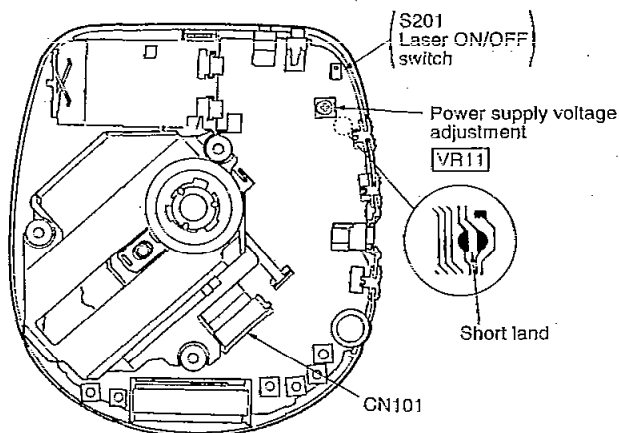

Fig. 1
Short-circuit the lands of the laser ON/OFF switch (S201) by soldering them. It turns "ON" position. (Refer to below Fig. 1 or printed circuit board and wiring connection diagram for short land location on page 24.)
2. Take care to connect CN101 (as shown in Fig.1).
4. Adjust **VR11** on the P.C.B. at **3.10 ~ 3.14 V**, as shown in Fig.1.